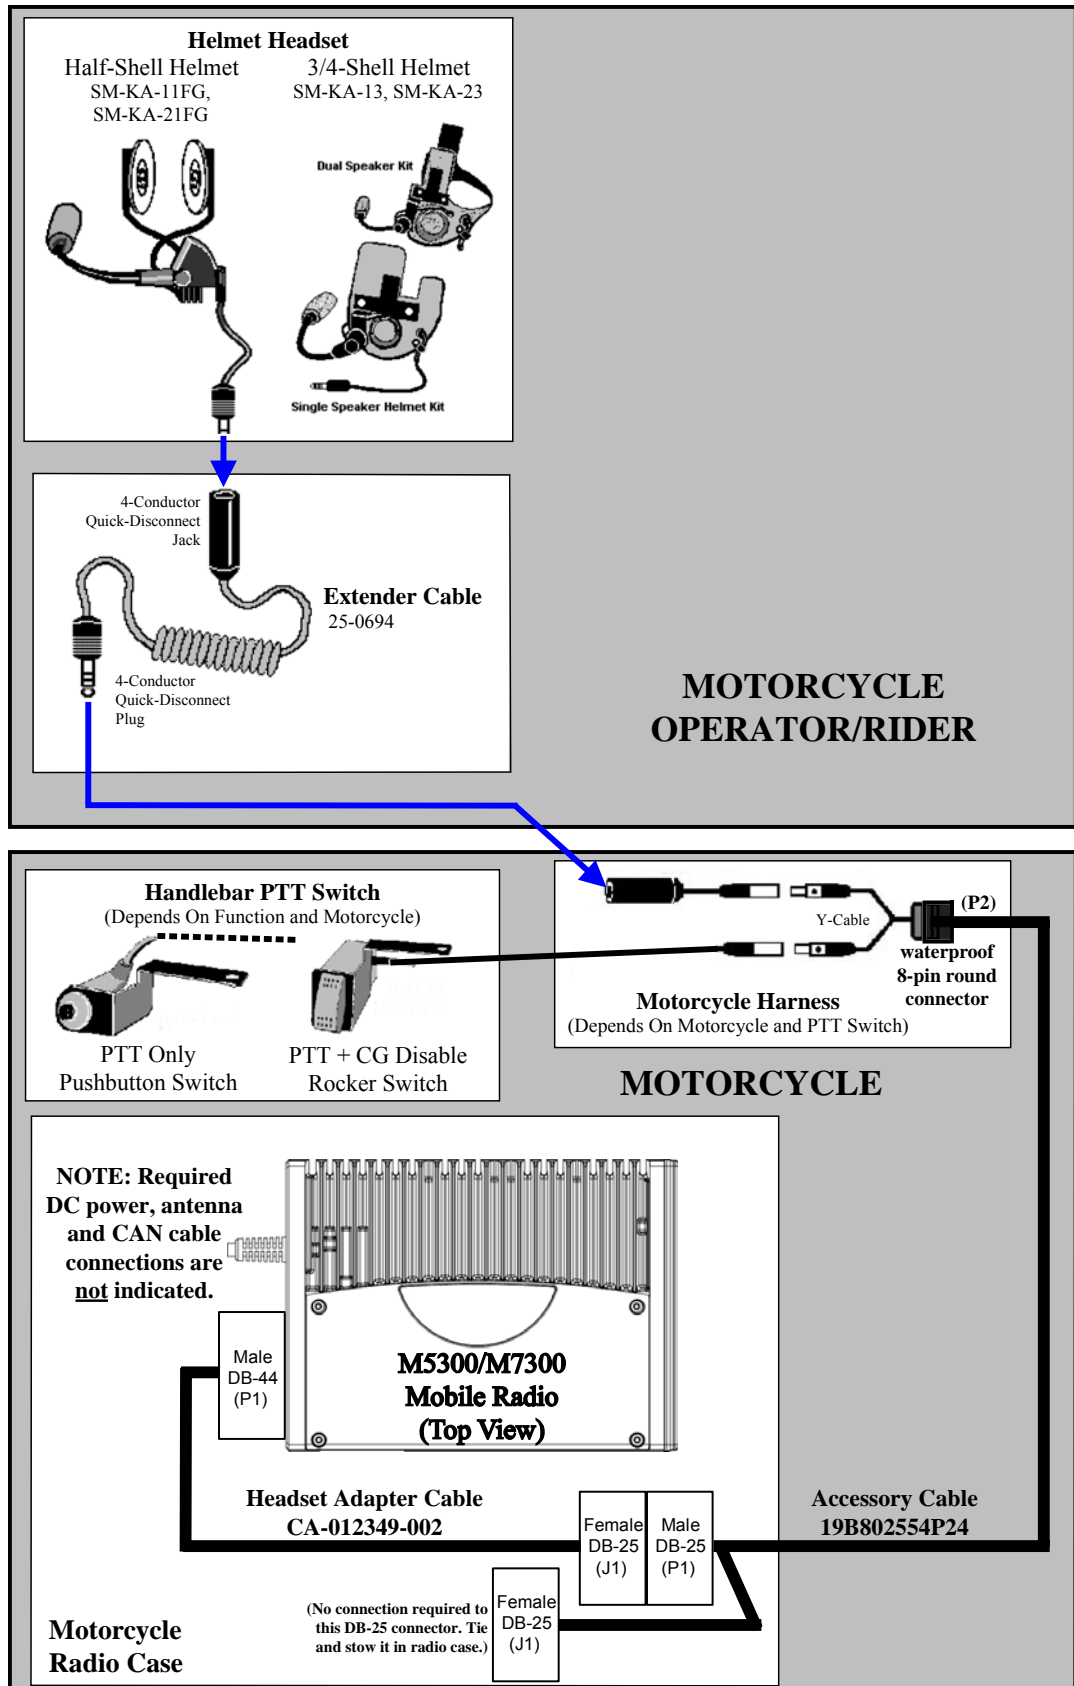
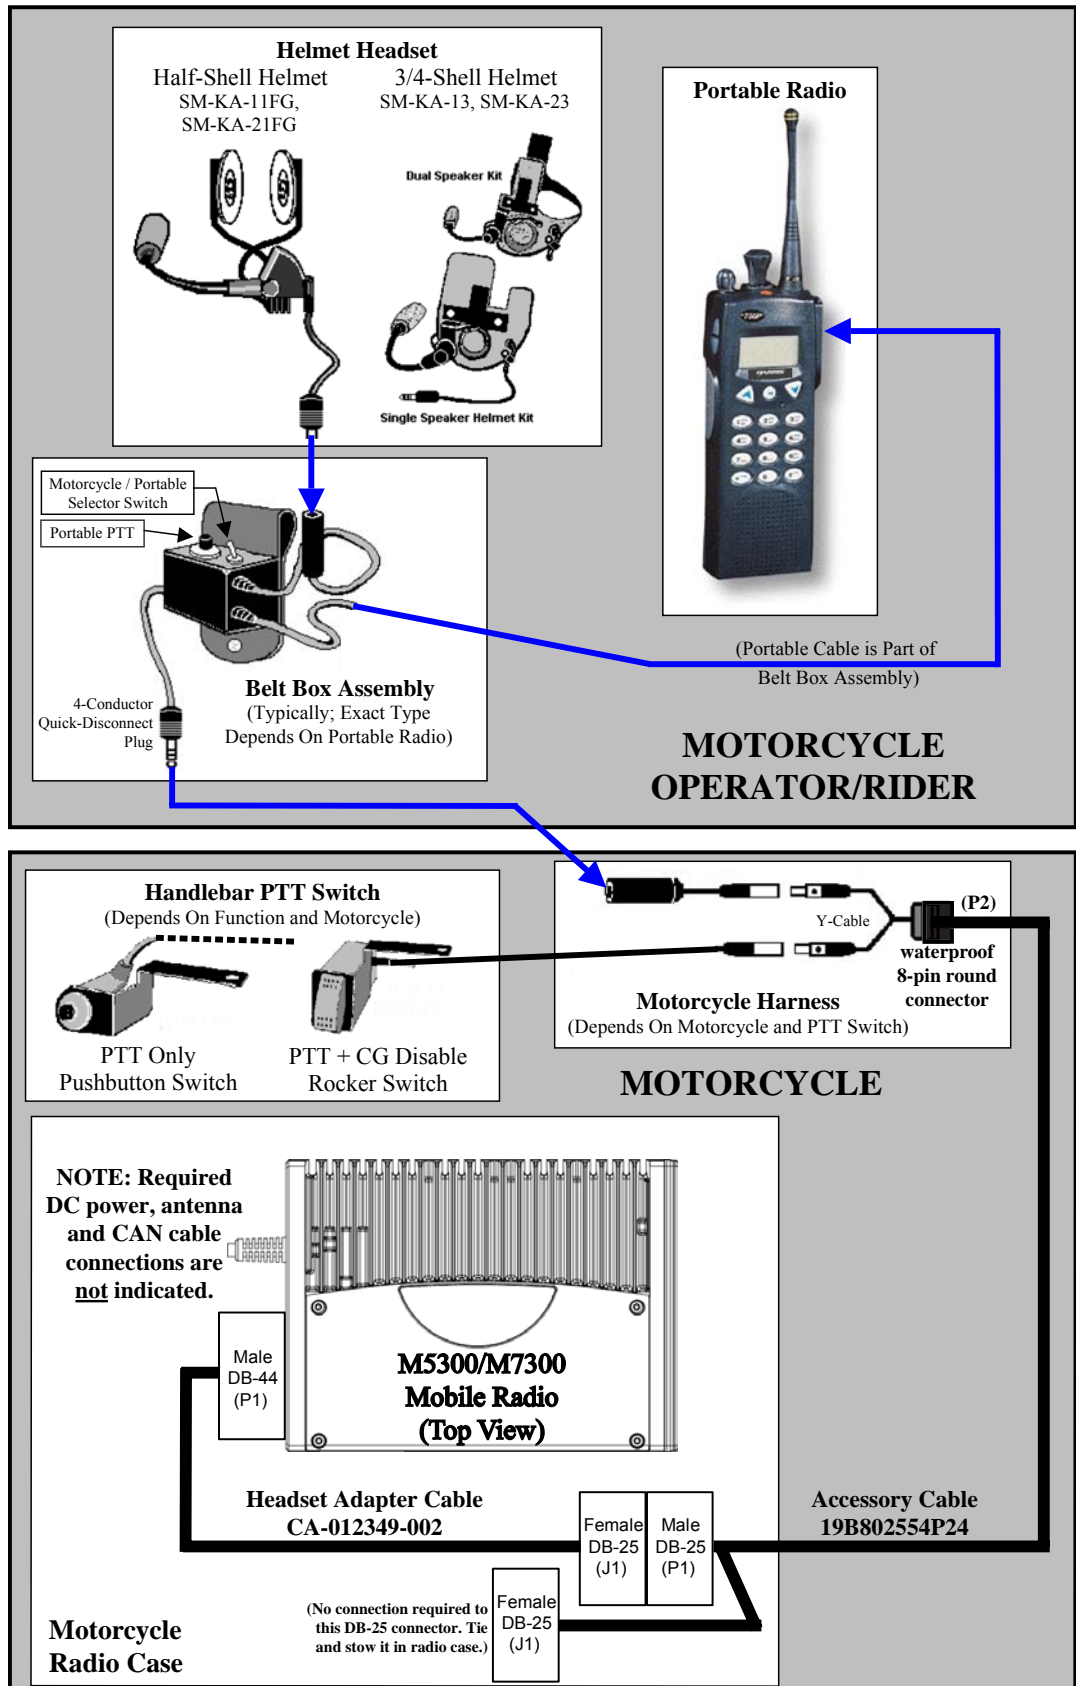

Figure 11-1: Headset-to-Mobile Radio Connection
Figure 11-2: Headset/Portable Radio-to-Mobile Radio Connection
2. As illustrated in Figure 11-1 on page 55, connect the male 44-pin D-subminiature (DB-44) connector of Headset Adapter Cable CA-012349-002 to the female DB-44 connector on the rear of the radio. Using a small flat-blade screwdriver, tighten the two (2) jackscrews securely.
3. Mate the male DB-25 connector of Accessory Cable 19B802554P24 to the female DB-25 connector of the Headset Adapter Cable. Tighten the two (2) jackscrews securely.
9. Connect the Y-cable’s 8-pin connector to the 8-pin connector of Accessory Cable 19B802554P24. Refer to Figure 11-1 as necessary.
11. As illustrated in Figure 11-1, use Extender Cable SM-25-0694 (or equivalent) to connector the headset to the Y-cable.
2. As illustrated in Figure 11-2 on page 57, connect the male 44-pin D-subminiature (DB-44) connector of Headset Adapter Cable CA-012349-002 to the female DB-44 connector on the rear of the radio. Using a small flat-blade screwdriver, tighten the two (2) jackscrews securely.
9. Connect the Y-cable's 8-pin connector to the 8-pin connector of Accessory Cable 19B802554P24. Refer to Figure 11-2 as necessary.
12. As illustrated in Figure 11-2, connect the Belt Box to the Y-cable's 4-conductor quick-disconnect jack.
Accessory Cable 19B802554P24 is required when making headset and/or portable radio connections as described in Section 11 of this manual. As illustrated in Figure 11-1 (page 55) and Figure 11-2 (page 57), this cable's male DB-25 connector, identified P1, mates to the female DB-25 connector of Headset Adapter Cable CA-012349-002. The cable's round 8-pin waterproof connector, identified P2, mates to the motorcycle harness Y-cable. In non-M5300/M7300 applications, Accessory Cable 19B802554P24 also supports connections to an external siren and light system via its connector J1.